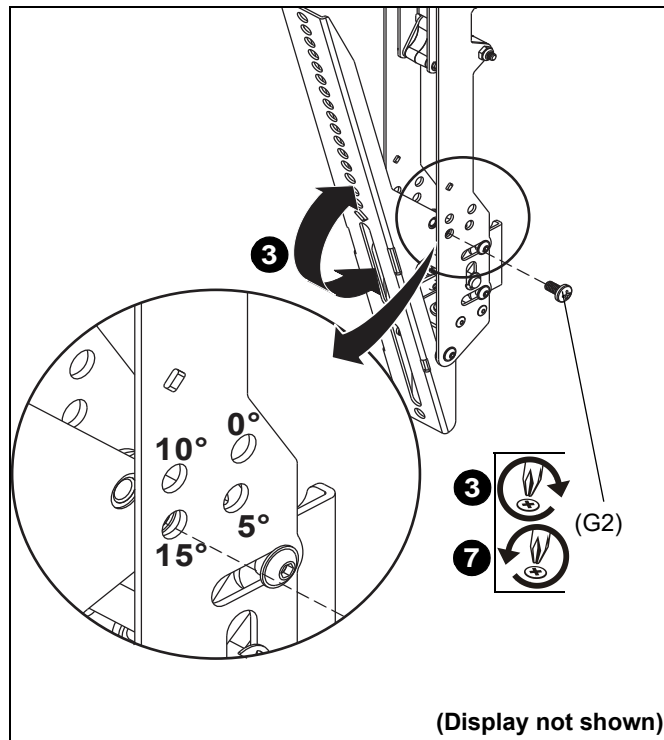

Figure 3
3. Adjust tilt as required and loosely install one 1/4-20 x 1/2" Phillips head screw (G2) per bracket to temporarily hold the tilt. (See Figure 3)
7. Remove fastener loosely holding tilt which was installed in Step 3. (See Figure 3)